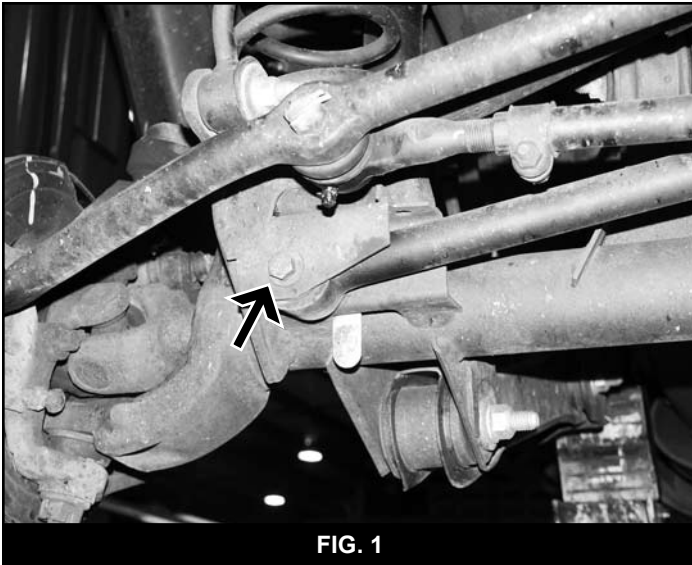

FIG. 1
4. Disconnect the front track bar from the passenger's side of the front axle (Fig 1). Retain hardware.